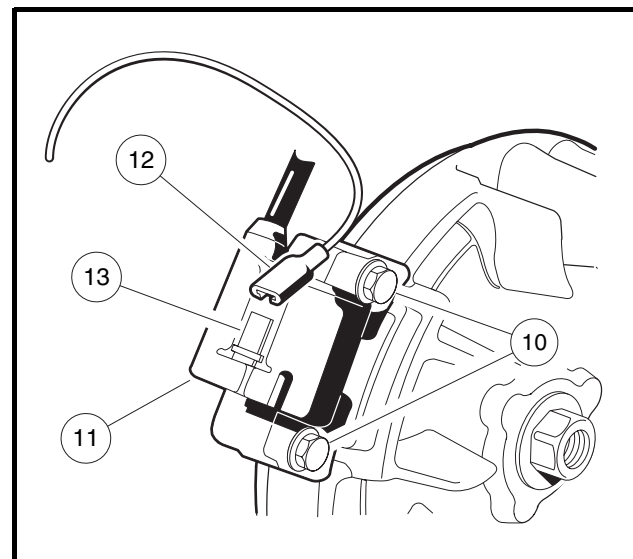

Figure 12-26 Black Wire and Ignition Coil
10. Disconnect the 18-gauge black wire (12) from the spade terminal (13) on the ignition coil (11) and remove the coil by removing two bolts (10) (**Figure 12-26, Page 12-24**).
11. Connect 18-gauge black (12) wire to the spade terminal (13) on the coil (**Figure 12-26, Page 12-24**).